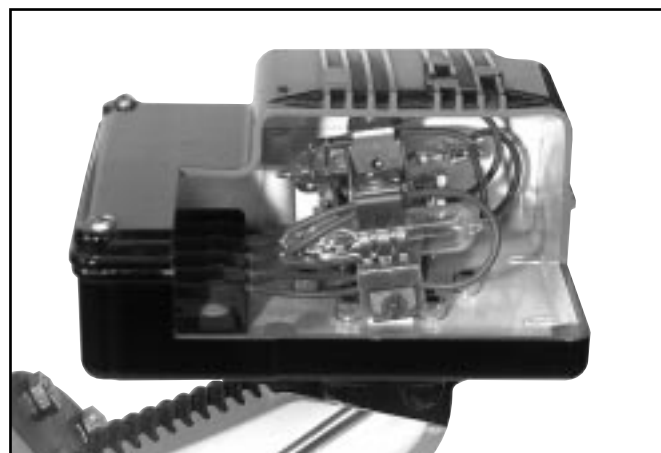

Figure: 1-5 Low Water Cut Off Pump Control (Cutaway)
- Starts and stops the feedwater pump (if used) to maintain water at the proper operating level (Figure 1-5).